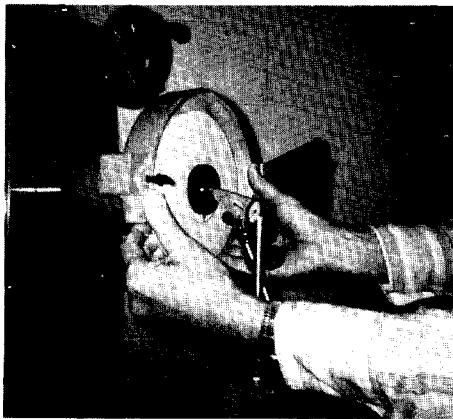

Figure 16
**E. Loss of preload.** Occasionally, due to a phenomenon called fretting corrosion (usually caused by out-of-balance wheels), the rear bearing outer race will freeze in the spindle sleeve, and the wave springs will no longer hold the spindle shaft tightly back against the front bearings. To check for loss of preload, place an indicator against the spindle nose as shown in Figure 16. Push against wheel guard with thumbs, pulling wheel forward while watching indicator. When released, needle should instantly return to original position. If needle will return to original position only by rotating wheel by hand, return spindle to factory for repair. Be sure to state that there was loss of preload on this test.